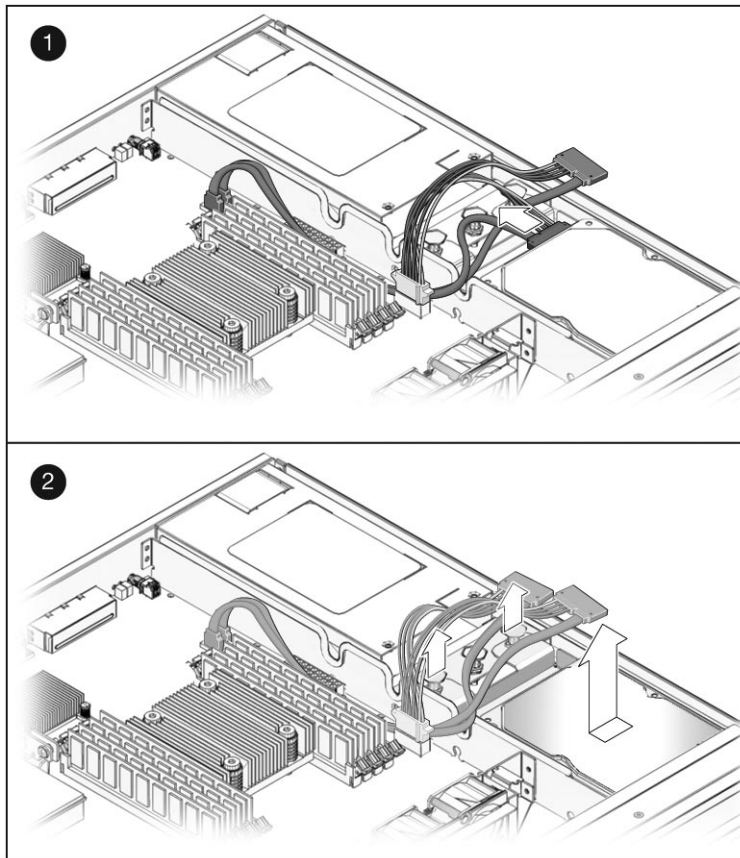

FIGURE 5-6 Removing the Single-Drive Assembly
2. Disconnect the drive cable from the data/power connector at the rear of the hard drive (FIGURE 5-6).
3. Pull the fasteners up on the rear of the single-drive assembly and remove the assembly from the chassis (FIGURE 5-6).